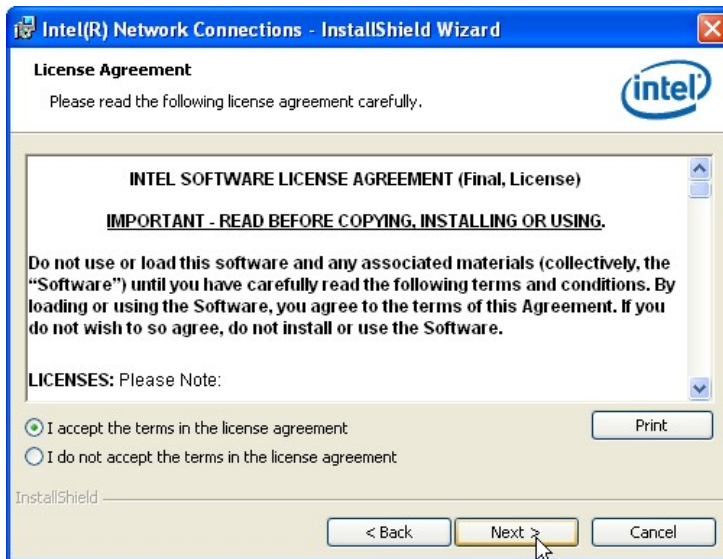

Figure 6-15: LAN Driver License Agreement
Step 8: The **License Agreement** in **Figure 6-15** appears.